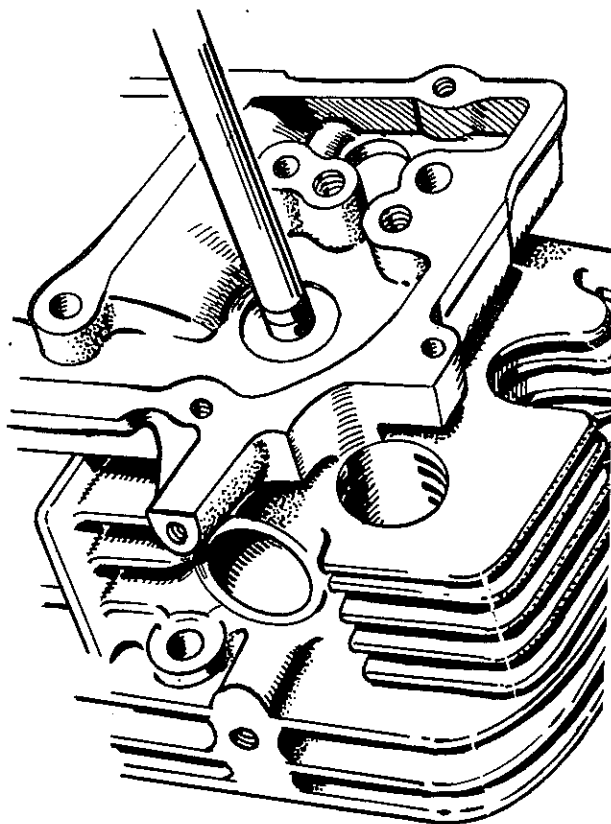

FIGURE 15-9. VALVE GUIDE REMOVAL
2. Use a guide driver to remove the old guides, on J-series engines. Figure 15-9. On L-head engines, drive the guides out with a hammer and punch. On J-series engines; use a press to remove the guides.